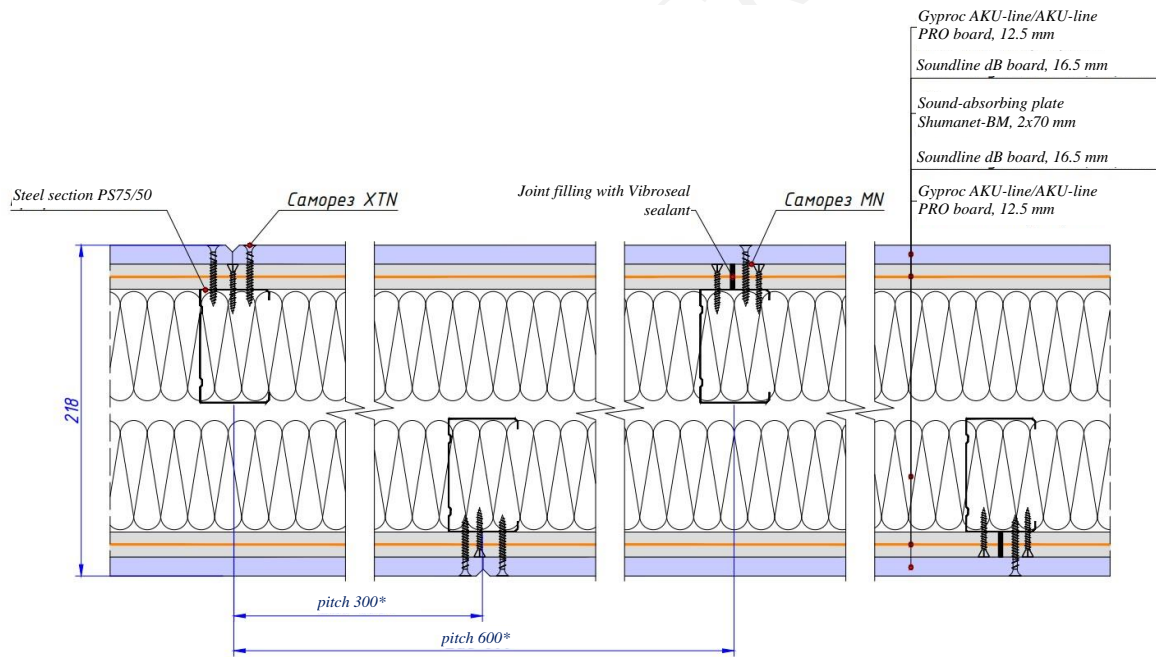
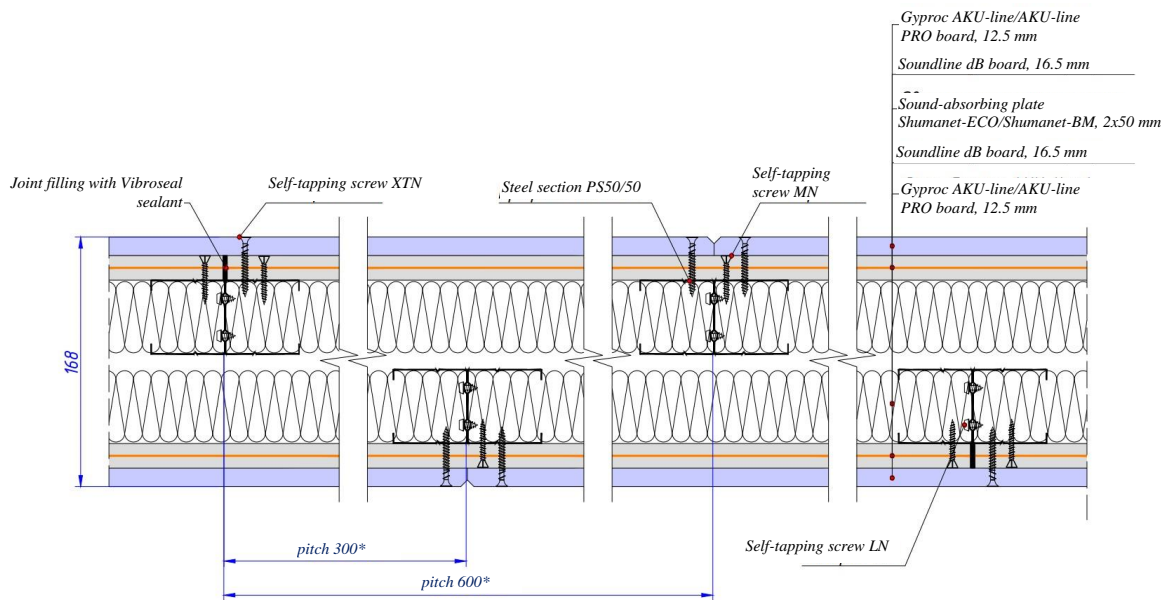

Figure 15. Location of studs in double independent frame soundproofing partition structure.
Figure 16. Location of studs in double independent frame soundproofing partition structure made of PS 50/50 steel section.
5.4. Using a plummet, install studs into the channels with the required pitch, but not more than 600 mm (300, 400 mm). Steel sections are connected with each other using a crimper or self-tapping screws. Studs of the first frame are installed with a pitch of 300 mm (200, 150 mm) relative to the studs of the second frame (Figure 15). When cladding partitions with ceramic tiles, the pitch of frame posts shall not be more than 400 mm. Back-to-back stud sections (PS 50/50) connected by 3.5x11 mm self-drilling screws (LN self-tapping screws or equivalents) are installed in 2 pcs. with a pitch of 300 mm in a 50 mm independent double frame soundproofing partition (Figure 16). The height of a stud in a room shall be 10 mm less than the height between the upper and lower channels in normal conditions, and 20 mm less for seismic conditions.